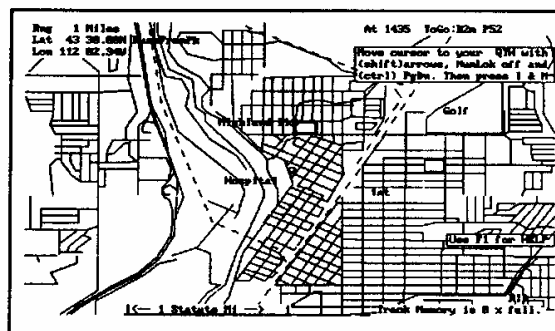

FIGURE 1: APRS computerized map
Automatic Packet Reporting System (APRS™) is a copyrighted software program developed by Bob Bruninga (WB4APR), which is distributed as shareware for real-time Packet communications. You can obtain a copy of APRS by logging on to Bruninga's BBS at (410) 280-2503. For higher level APRS applications you may need a registered version of the software. The software keeps lists of stations heard and displays the locations of stations visually on a computerized map like the one in Figure 1. The maps can be scaled from .5 to 2000 miles. Few of the maps are complete, however there are tracking features built into APRS which allow you to create maps just by driving down the streets of your town. Stations can appear on the maps and each station may be given a symbol such as a house, car, or boat. The real benefit of using APRS software is in mobile tracking applications. Vehicles and people can be tracked and mapped using APRS. APRS also includes the ability to send short messages and bulletins. Using